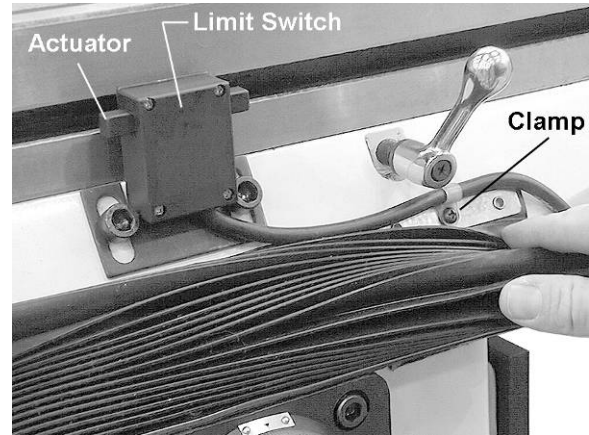

Figure 6
13. Place the limit switch over the holes and secure with two 3/8 x 1" socket head cap screws provided. See Figure 6. If the actuators are not symmetrical, grind them to obtain the proper position.
14. Secure limit switch cord using the provided clamp. Attach it to the right-hand side of chip scraper with the screw provided. See Figure 6.